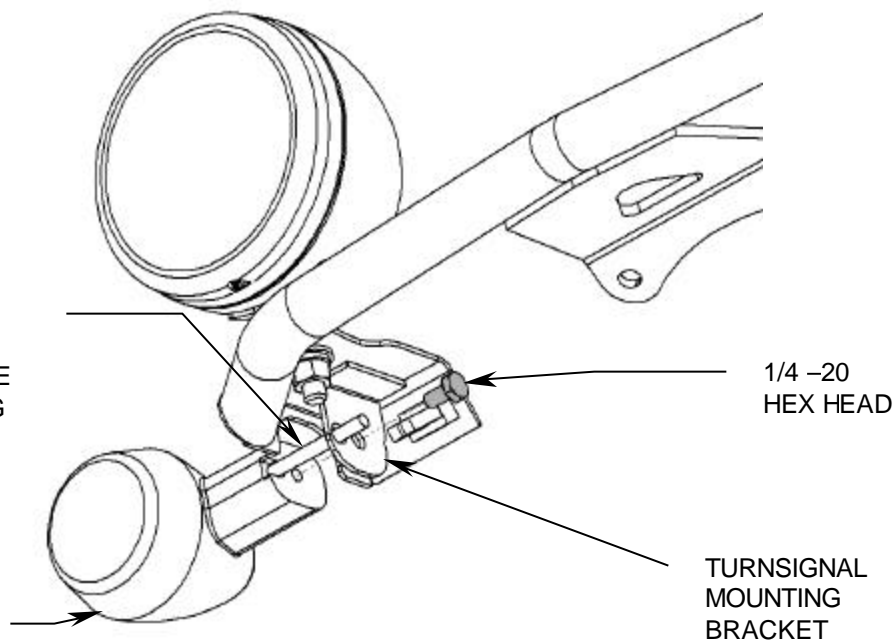

FIGURE 1
1. Remove the new Cobra lightbar from packaging. Install the loose turn signals to the mounts with the (2) supplied 1/4" bolts, see Figure 1.
2. Remove (2) Phillips head screws from motorcycle headlight and set aside. Remove the headlight from housing, unplug and set aside.
4. Remove (2) 8mm bolts & nuts from headlight housing and lower triple clamp and set aside, install (2) new 8mm x 50mm flange bolts from the top through the headlight-mounting bracket, and through the lower triple clamp.